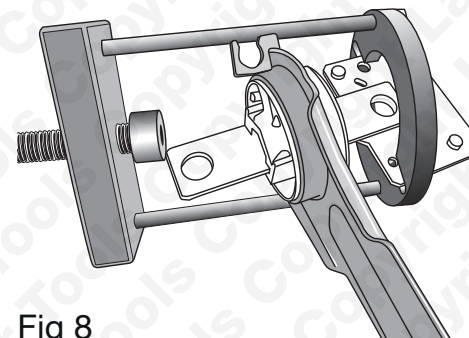
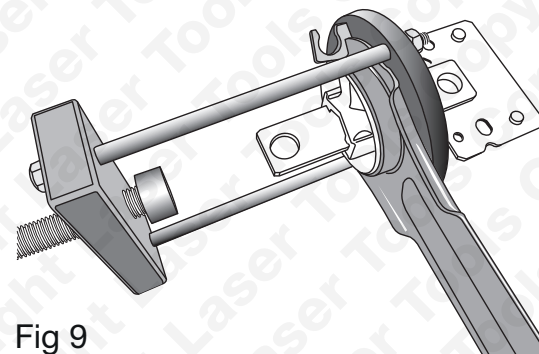

Fig 8
Fig 9
Note: For method of mounting and demounting the press frame when working on the Volvo left hand bush with double size mounting plate, see **Fig 8** and **Fig 9**. Hold the tool frame at an angle and use the slots built into the press frame support ring (4) to slide past the bush mounting plate.